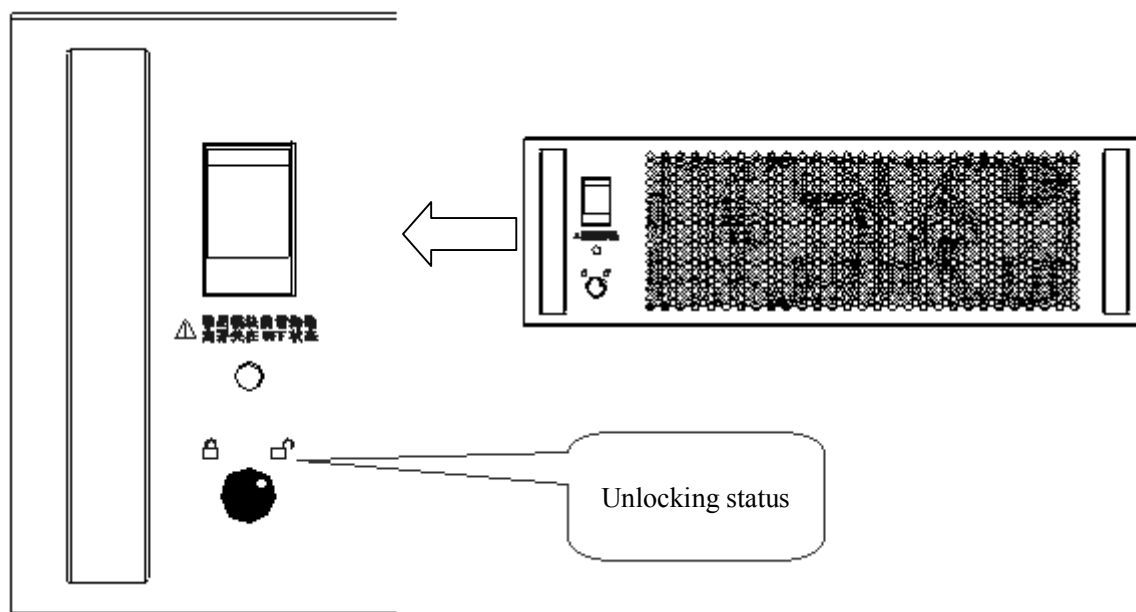

Fig. 5.1
2. Remove the packaging of the UPS module and check the status of the position lock located on the front panel of the module. In normal condition, the white dot on the position lock should be at the position of “☐” (Fig.5.1); if the white dot is at the position of “⊞”, please turn it to the “☐” position.